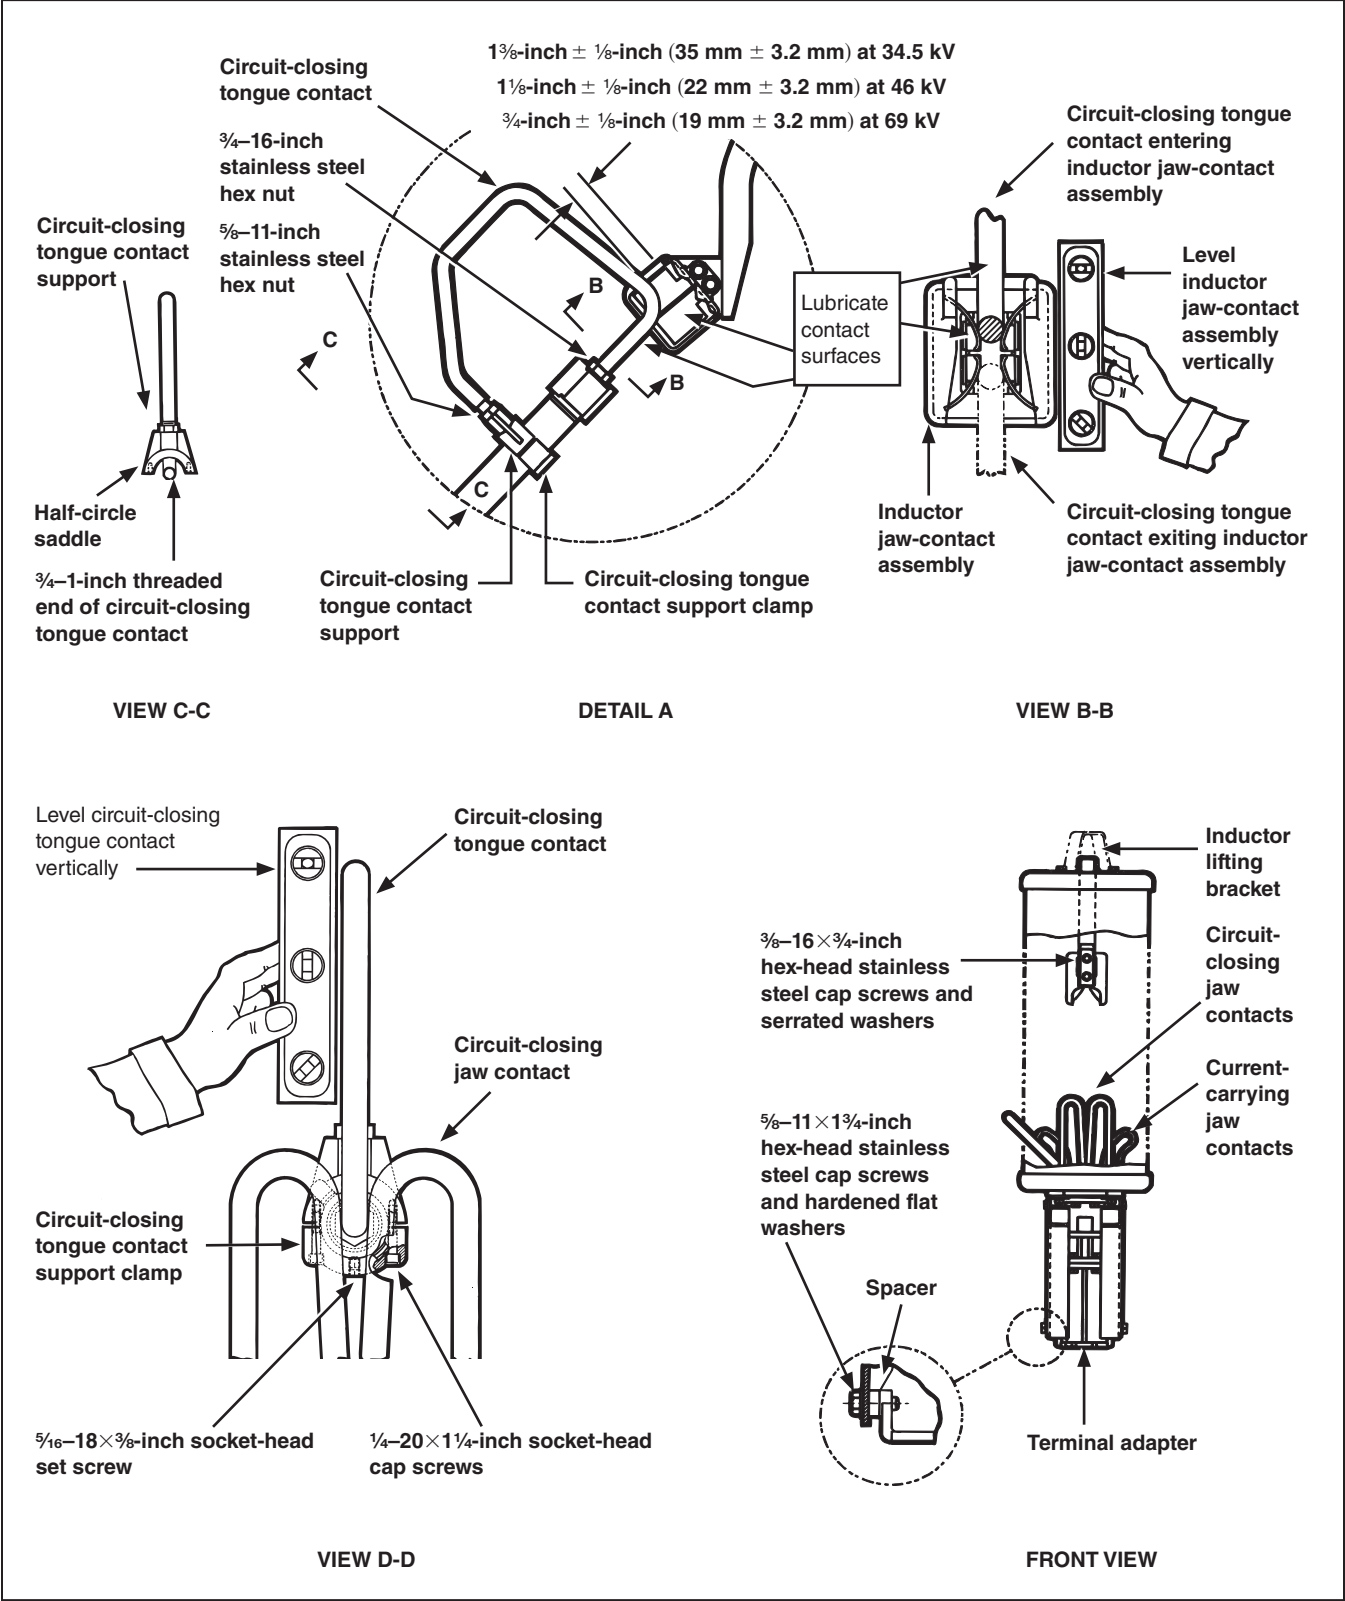
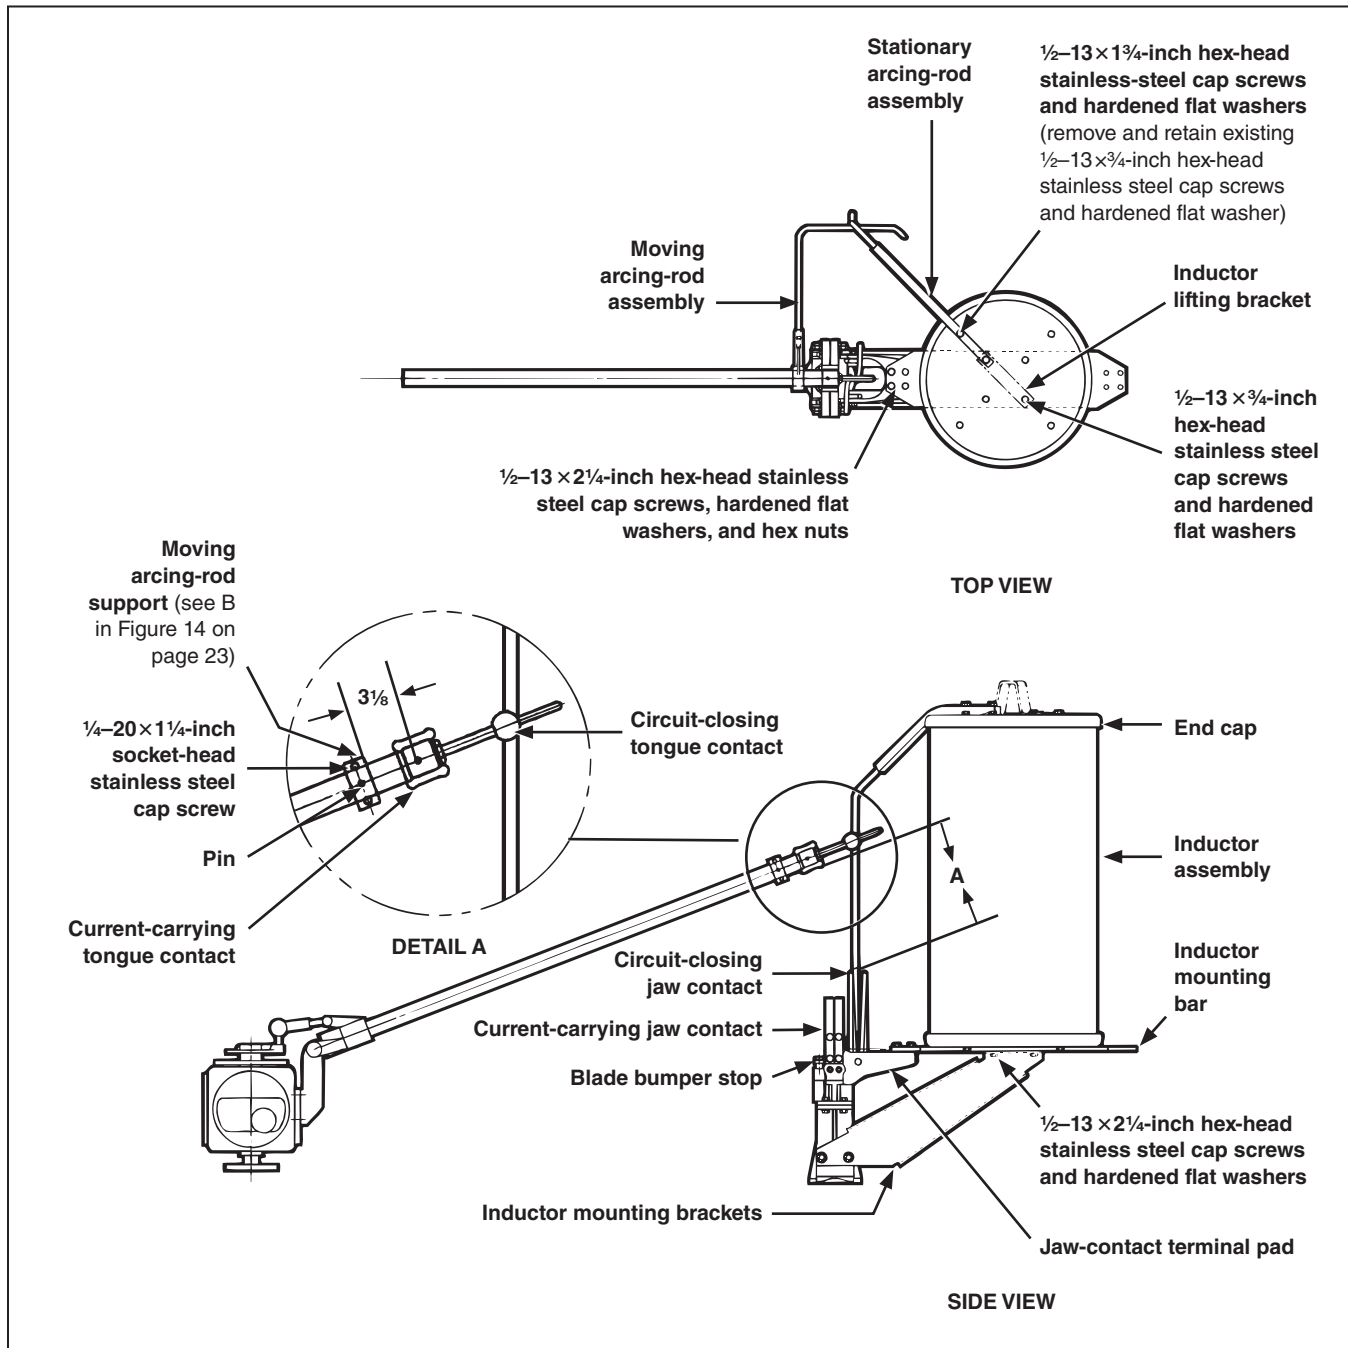
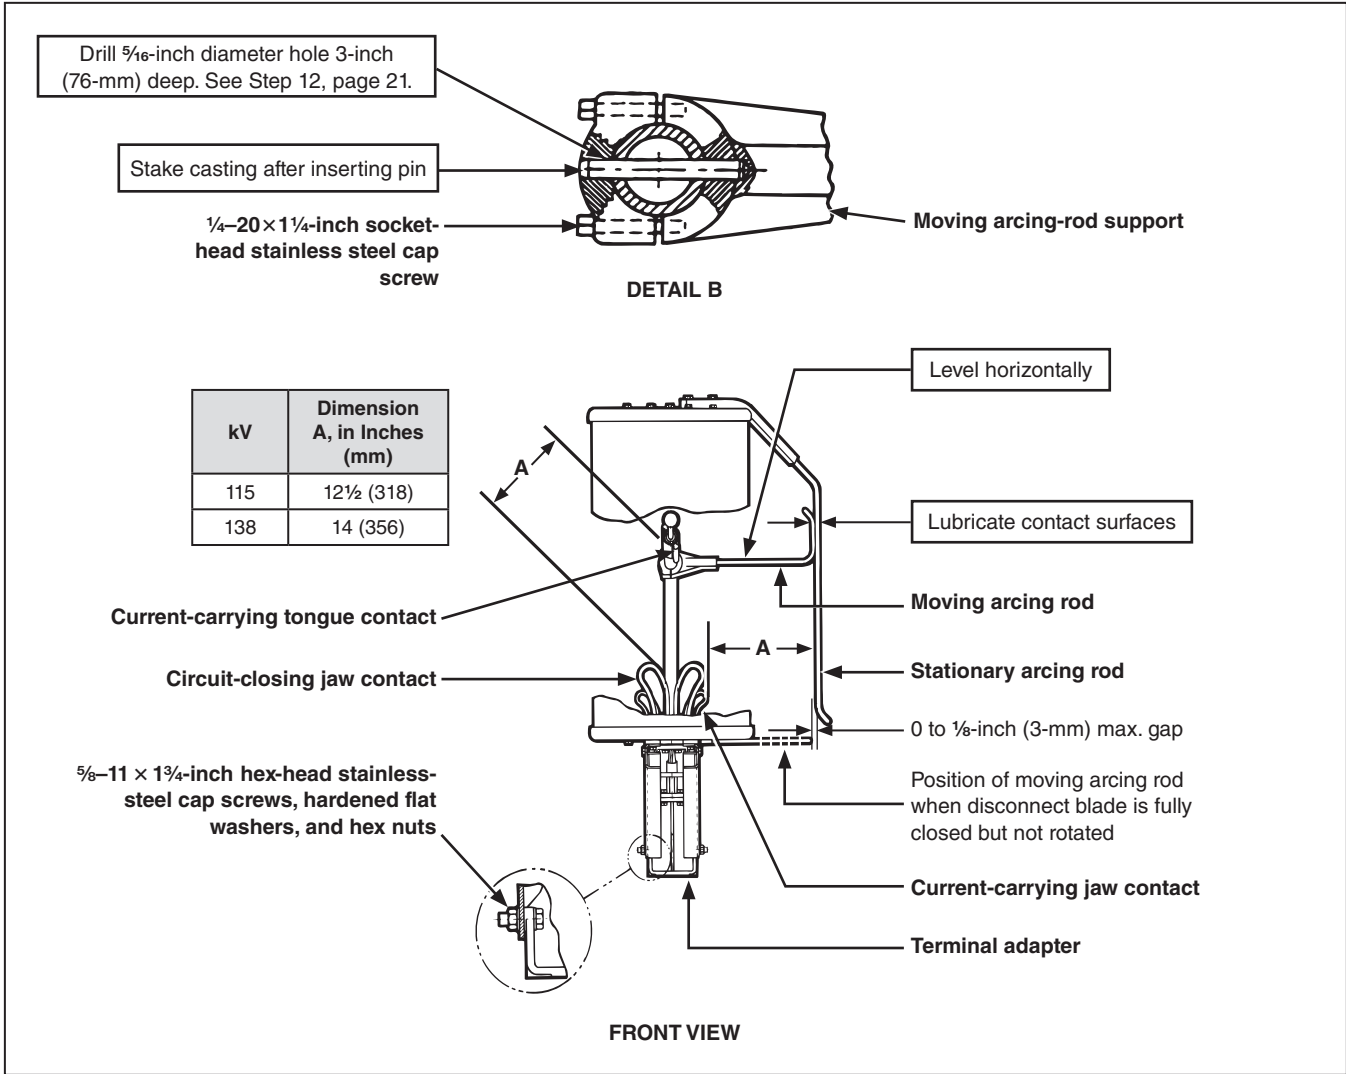

Figure 12. Detail views of standard-duty pre-insertion inductors for 34.5-kV through 69-kV vertical-break style and inter-style circuit-switchers.
Figure 13. Assembly details of pre-insertion inductors for 115-kV and 138-kV vertical-break style circuit-switchers.
Figure 14. Detail B and front view of pre-insertion inductors for 115-kV and 138-kV vertical-break style circuit-switchers.
- STEP 3.** Pre-assemble the replacement circuit-closing tongue contact by installing a  $\frac{5}{8}$ -11 stainless steel hex nut and a  $\frac{3}{4}$ -16-inch stainless steel hex nut to the ends of the contact. See Figure 12 on page 19, Detail A. Screw the hex nuts all the way down onto the contact. Screw the circuit-closing tongue contact onto the circuit-closing tongue contact support so the center of the half-circle saddle is concentric to the  $\frac{3}{4}$ -16-inch threaded end of the circuit-closing tongue contact. See Figure 12 on page 19, View C-C.
- STEP 4.** Install the special  $\frac{3}{4}$ -inch washer with the radius edge towards the  $\frac{3}{4}$ -16-inch hex nut. See Figure 12 on page 19, Detail A. Remove the circuit-closing tongue contact support clamp and screw the  $\frac{3}{4}$ -16-inch threaded end of the circuit-closing tongue contact assembly all the way into the disconnect blade.
The circuit-closing tongue contact should be in a vertical position when the disconnect blade is being closed and the circuit-closing tongue contact is just making contact with the circuit-closing jaw contacts. See Figure 11 on page 18 and Figure 12 on page 19, side view and View D-D. Securely tighten the  $\frac{3}{4}$ -16-inch hex nut.
- STEP 5.** Attach the circuit-closing tongue contact support clamp to the circuit-closing tongue contact support using two  $\frac{1}{4}$ -20  $\times$  1 $\frac{1}{4}$ -inch socket-head stainless steel cap screws and securely tighten. See Figure 11 on page 18 and Figure 12 on page 19, View D-D.
Install a  $\frac{5}{16}$ -18  $\times$   $\frac{3}{8}$ -inch socket-head set screw and securely tighten. Securely tighten the  $\frac{5}{8}$ -11-inch hex nut up to the circuit-closing tongue contact support. See Figure 12 on page 19, Detail A.
- STEP 1.** Loosely attach the inductor mounting bar to the top of the jaw-contact terminal pad using four ½–13 × 2¼-inch hex-head stainless steel cap screws, eight hardened flat washers, and four ½–13-inch hex nuts furnished. See Figure 11 on page 18 and Figure 12 on page 19, top and side views.
- STEP 2.** Loosely attach the inductor mounting brackets and spacers to each side of the terminal adapter on the front insulator stack using four ⅝–11 × 1¾-inch hex-head stainless steel cap screws and four ⅝-inch hardened flat washers. See Figure 11 on page 18 and Figure 12 on page 19, front and side views.
- STEP 3.** *For 34.5-kV through 69-kV circuit-switchers furnished with 10-millihenry standard-duty inductors:* Remove and discard the two ½–13 × 1½-inch hex-head stainless steel cap screws and two ½-inch hardened flat washers securing the top inductor end cap to the inductor assembly. Attach the inductor lifting bracket to the top end cap using two ½–13 × 1¼-inch hex-head stainless steel cap screws and two hardened flat washers. Securely tighten the hardware. See Figure 11 on page 18 and Figure 12 on page 19, front and top views. Proceed to Step 4.
*For 69-kV circuit-switchers furnished with 40-millihenry standard-duty inductors or enhanced-duty inductors:* Attach the inductor lifting bracket to the top end cap of the inductor assembly using two ½–13 × 1¼-inch hex-head stainless steel cap screws and two hardened flat washers. Securely tighten the hardware. See Figure 11 on page 18 and Figure 12 on page 19, front and top views.
- STEP 4.** *For 34.5-kV through 69-kV circuit-switchers furnished with 10-millihenry standard-duty inductors:* Lift the inductor assembly on top of the inductor mounting bar and inductor mounting brackets. Attach the bottom end cap of the inductor assembly to the inductor mounting bar and inductor mounting brackets using the four studs on the end cap, four ½-inch hardened flat washers, and four ½–13-inch stainless steel hex nuts. Securely tighten the hardware. See Figure 11 on page 18 and Figure 12 on page 19, side and front views. Proceed to Step 5.
mounting brackets using four  $\frac{1}{2}$ -13 $\times$ 2 $\frac{1}{4}$ -inch hex-head stainless steel cap screws and four  $\frac{1}{2}$ -inch hardened flat washers. Securely tighten the hardware. See Figure 11 on page 18 and Figure 12 on page 19, side and front views.
- STEP 6.** Securely tighten the four  $\frac{5}{8}$ -11 $\times$ 1 $\frac{3}{4}$ -inch hex-head stainless steel cap screws attaching the inductor mounting brackets and spacers to each side of the terminal adapter on the front insulator stack. See Figure 11 on page 18 and Figure 12 on page 19, side and front views.
- STEP 8.** Loosely attach the inductor jaw-contact assembly to the contact support tube using two  $\frac{3}{8}$ -16 $\times$  $\frac{3}{4}$ -inch hex-head stainless steel cap screws and two serrated washers. See Figure 11 on page 18 and Figure 12 on page 19, side and front views.
- STEP 11.** Manually close the circuit-switcher so the circuit-closing tongue contact engages both contacts of the inductor jaw-contact assembly with equal pressure on each side. See Figure 12 on page 19, View B-B. Adjust the contact support tube to attain the dimension shown in Figure 12 on page 19, Detail A.
**STEP 12.** Level the inductor jaw-contact assembly vertically while maintaining the circuit-closing tongue contact engaged between the inductor contacts with equal pressure. See Figure 11 on page 18 and Figure 12 on page 19, View B-B. Securely tighten the two  $\frac{3}{8}$ -16  $\times$   $\frac{3}{4}$ -inch hex-head stainless steel cap screws attaching the inductor jaw-contact assembly to the contact support tube. See Figure 11 on page 18 and Figure 12 on page 19, side and front views.
**STEP 13.** Continue closing the circuit-switcher and verify the circuit-closing tongue contact continues to engage both contacts with equal pressure as it exits the inductor contact assembly. See Figure 12 on page 19, View B-B. If adjustment is necessary, proceed to Step 14. If adjustment is not necessary, proceed to Step 15 on page 17.
**STEP 14.** Loosen the  $\frac{3}{4}$ -16-inch stainless steel hex nut securing the circuit-closing tongue contact to the disconnect blade and loosen the two  $\frac{1}{4}$ -20  $\times$   $1\frac{1}{4}$ -inch socket-head cap screws and  $\frac{5}{16}$ -18  $\times$   $\frac{3}{8}$ -inch socket-head set screw securing the circuit-closing tongue contact support to the disconnect blade. See Figure 12 on page 19, Detail A and View D-D.
**STEP 15.** Manually operate the circuit-switcher to make sure the circuit-closing tongue contact is centered on the contacts of the inductor jaw-contact assembly during closing and opening. Lubricate the contact surfaces with S&C catalog number 9999-043 lubricant, furnished. See Figure 12 on page 19, Detail A.
- STEP 1.** Loosely attach the inductor mounting bar to the top of the jaw-contact terminal pad using four  $\frac{1}{2}$ -13  $\times$  2 $\frac{1}{4}$ -inch hex-head stainless steel cap screws, eight hardened flat washers, and four  $\frac{1}{2}$ -13-inch hex nuts furnished. See Figure 13 on page 22, top and side views.
- STEP 2.** Refer to Figure 12 on page 19, front view, and insert, from the underside, four  $\frac{5}{8}$ -11  $\times$  1 $\frac{3}{4}$ -inch hex-head stainless steel cap screws and hardened flat washers through the tapped holes on each face of the terminal adapter. Loosely attach the inductor mounting brackets to the terminal adapter using four  $\frac{5}{8}$ -inch hardened flat washers and  $\frac{5}{8}$ -11-inch hex nuts furnished. See Figure 12 on page 19 and Figure 13 on page 22, front and side views.
- STEP 3.** Attach the inductor lifting bracket to the top end cap of the inductor assembly using two  $\frac{1}{2}$ -13  $\times$   $\frac{3}{4}$ -inch hex-head stainless steel cap screws and hardened flat washers furnished. See Figure 13 on page 22, top view. Securely tighten the hardware.
- STEP 4.** Lift the inductor assembly on top of the inductor mounting bar and the inductor mounting bracket. Attach the bottom end cap of the inductor assembly to the inductor mounting bar and inductor mounting bracket using four  $\frac{1}{2}$ -13  $\times$  2 $\frac{1}{4}$ -inch hex-head stainless steel cap screws and hardened flat washers. See Figure 13 on page 22, side view. Securely tighten the hardware.
- STEP 6.** Securely tighten each  $\frac{5}{8}$ -11-inch hex nut attaching the inductor mounting bracket to the terminal adapter, while holding the associated  $\frac{5}{8}$ -11  $\times$  1 $\frac{3}{4}$ -inch hex-head stainless steel cap screw to prevent it from turning. See Figure 12 on page 19, front view. Now tighten each  $\frac{5}{8}$ -11-inch hex nut  $\frac{1}{3}$  additional turn.
- STEP 8.** Remove and retain the appropriate  $\frac{1}{2}$ -13  $\times$   $\frac{3}{4}$ -inch hex-head stainless steel cap screw and hardened flat washer from the top end cap of the inductor assembly. See Figure 13 on page 22, top view. Loosely attach the stationary arcing-rod assembly to the top end cap using two  $\frac{1}{2}$ -13  $\times$  1 $\frac{1}{4}$ -inch hex-head stainless steel cap screws and hardened flat washers furnished.
- STEP 10.** Loosely attach the moving arcing-rod support to the disconnect blade in accordance with the 3/8-inch (79-mm) dimension shown in Figure 13 on page 22, Detail A.
- STEP 11.** Manually close the circuit-switcher so the minimum metal-to-metal clearance between the current-carrying tongue contact and the nearest circuit-closing jaw contact is equal to Dimension A, as shown in Figure 13 on page 22 and Figure 14 on page 23, side view and front view.
- With the circuit-switcher disconnect blade in this position, rotate the moving arcing rod to the horizontal position, as shown in Figure 14 on page 23, front view. Fully tighten the two 1/4–20×1 1/4-inch socket-head stainless steel cap screws. Apply furnished Loctite “A” to the two cap screws.
- STEP 12.** Using the tapped hole in the moving arcing-rod support as a guide, drill a 5/16-inch diameter hole, 3 inches deep in the disconnect blade. See Figure 14 on page 23, Detail B. Drive in the groove pin furnished, then stake the support casting.
- STEP 13.** Manually close the circuit-switcher so the minimum metal-to-metal clearance between the current-carrying tongue contact and the nearest circuit-closing jaw contact is equal to Dimension A, as shown in Figure 13 on page 22, side view and front view.
Adjust the stationary arcing-rod assembly to attain a 0-inch to 1/8-inch (3-mm) gap between the stationary arcing rod and the moving arcing rod. See Figure 14 on page 23, front view. Securely tighten the two 1/2–13×1 3/4 hex-head stainless steel cap screws. Lubricate the contact surfaces with an appropriate lubricant, such as S&C catalog number 9999-043 or equivalent. See Figure 14 on page 23, front view.